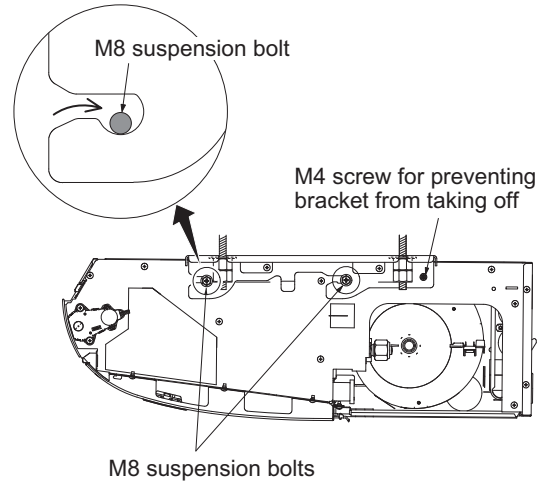

Fig. 1-44
- b) Suspend the indoor unit to the bracket. Tighten the M8 suspension bolts and fix the indoor unit in place. (Fig. 1-44)